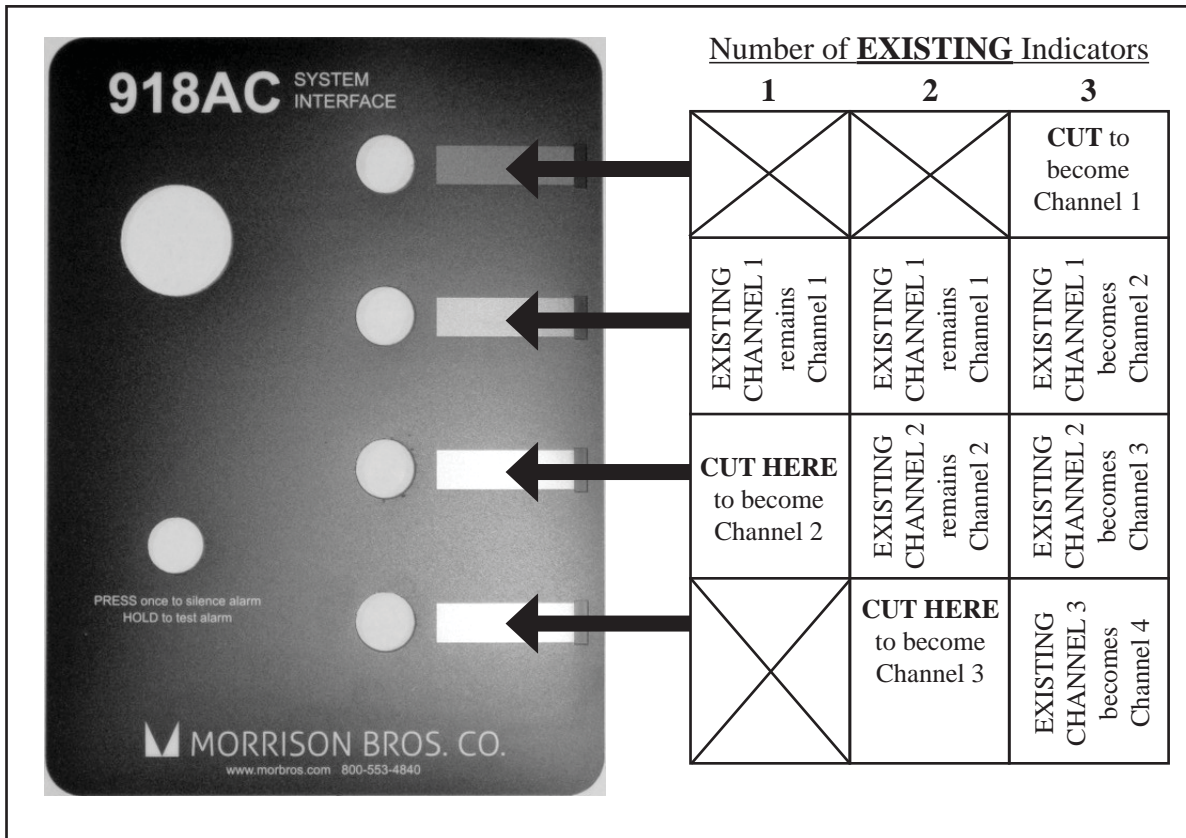

Figure 28 - Determining where to cut the new Lens Hole
a. Determine where to cut the Overlay using Figure 28 as a guide.